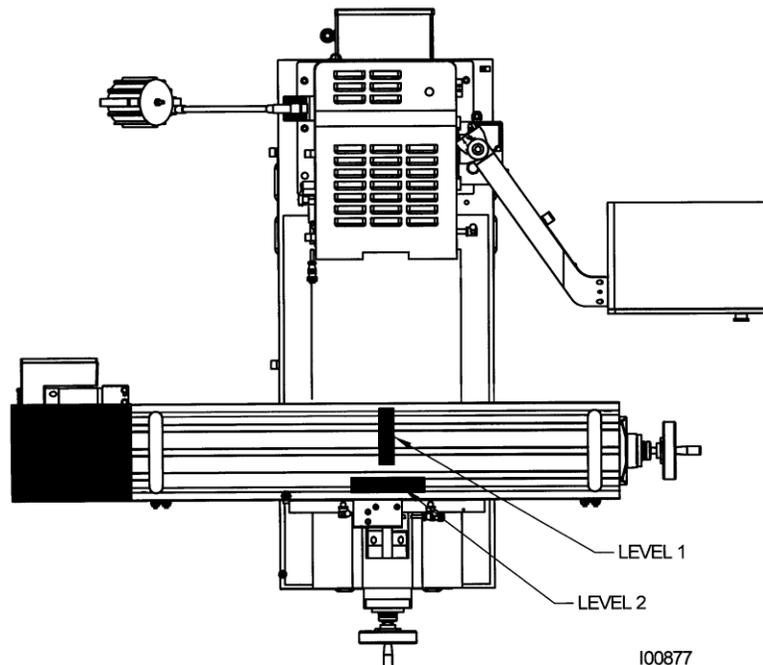

Figure 7: Placement of Levels
2. Put one or two precision Spirit Levels or Electronic Levels in the center of the table in the positions illustrated in Figure 7.